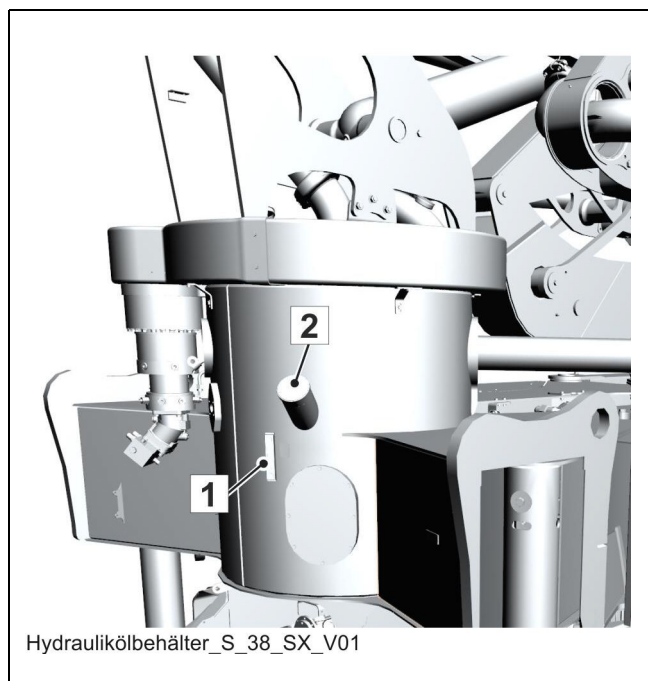

Fig. 48 Example: Hydraulic tank level indicator
- Check the oil level of the hydraulic oil box on the inspection glass (1) (**Fig. 48**).
When the oil is cold, the fill level indicator (1) of the hydraulic oil tank (**Fig. 48**) must be located between the "Min." and "Max." marking.
Caption (Fig. 48)